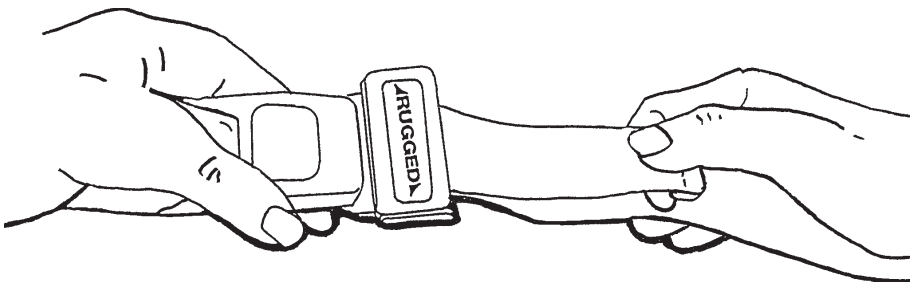

Figure 11 - Shortening the Safety Restraint
- Grasp the hemmed tab and pull the webbing back through the tang until the required tightness is achieved as shown in Figure 11.